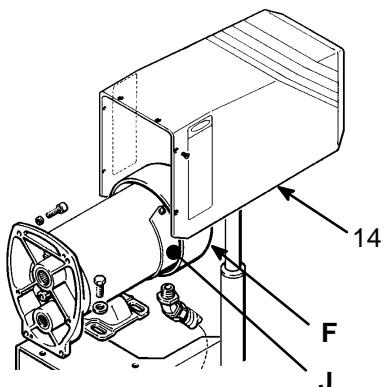

Fig 23–1
NOTE: Replace the brushes when they have worn to less than 1/2 in. See STEP 1, Fig 23–3. Note that the brushes wear differently on each side of the motor, so check them both. Brush Repair Kit 820–536 is available.
1. Remove the motor shield (14). Remove the inspection covers (J) and gaskets (K). See Fig 23–1.
2. Push in the spring clip to release its hooks from the brush holder. Pull out the spring clip. See Fig 23–2.
3. Loosen the brush lead terminal screw. Pull the brush lead away, leaving the motor lead terminal in place. Remove the brush and spring. See Fig 23–3.